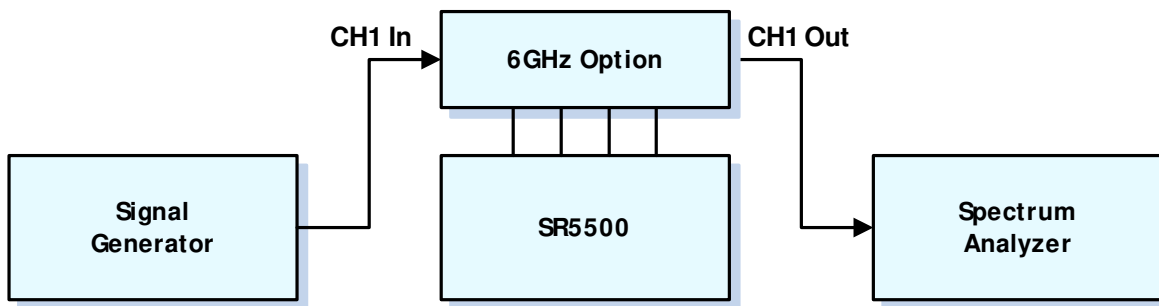

Figure 1-13: SR5500 with 6GHz (-EX) Option Verification Setup
OPTIONAL: Use the table and block diagram shown in Figure 1-13 to connect the equipment to a SR5500 equipped with the 6 GHz(EX) RF Converter.